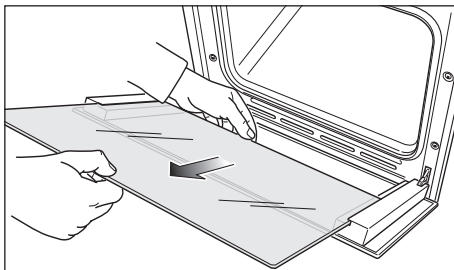

Figure 39
- Gently pull out the inner pane of glass (fig. 39).